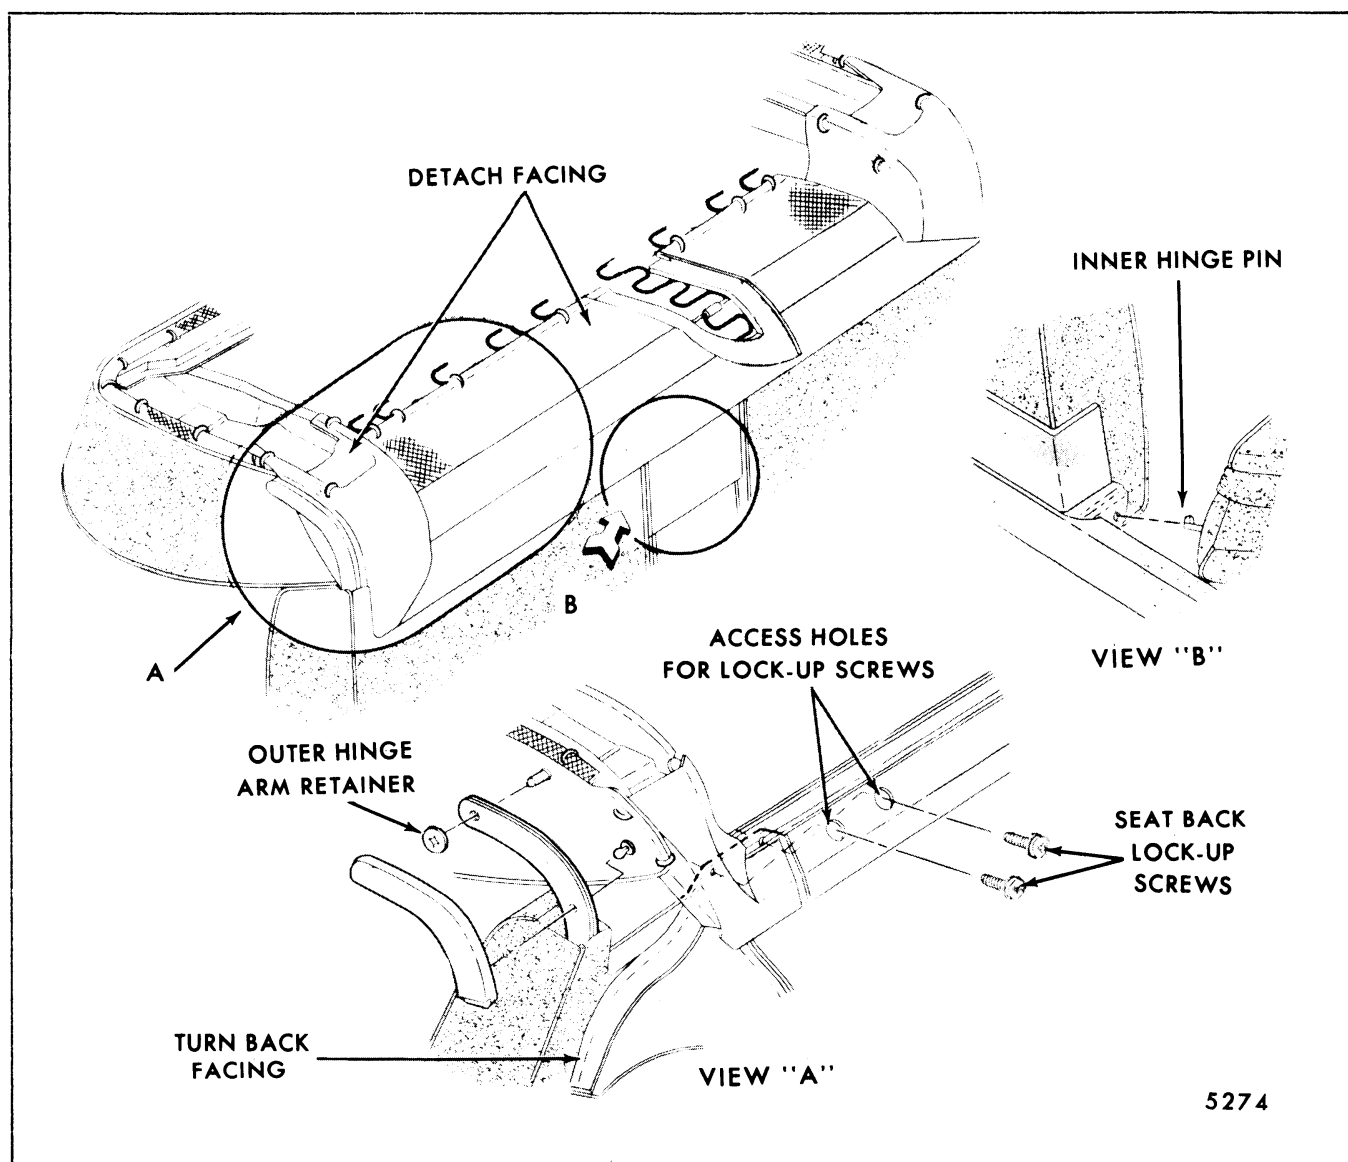
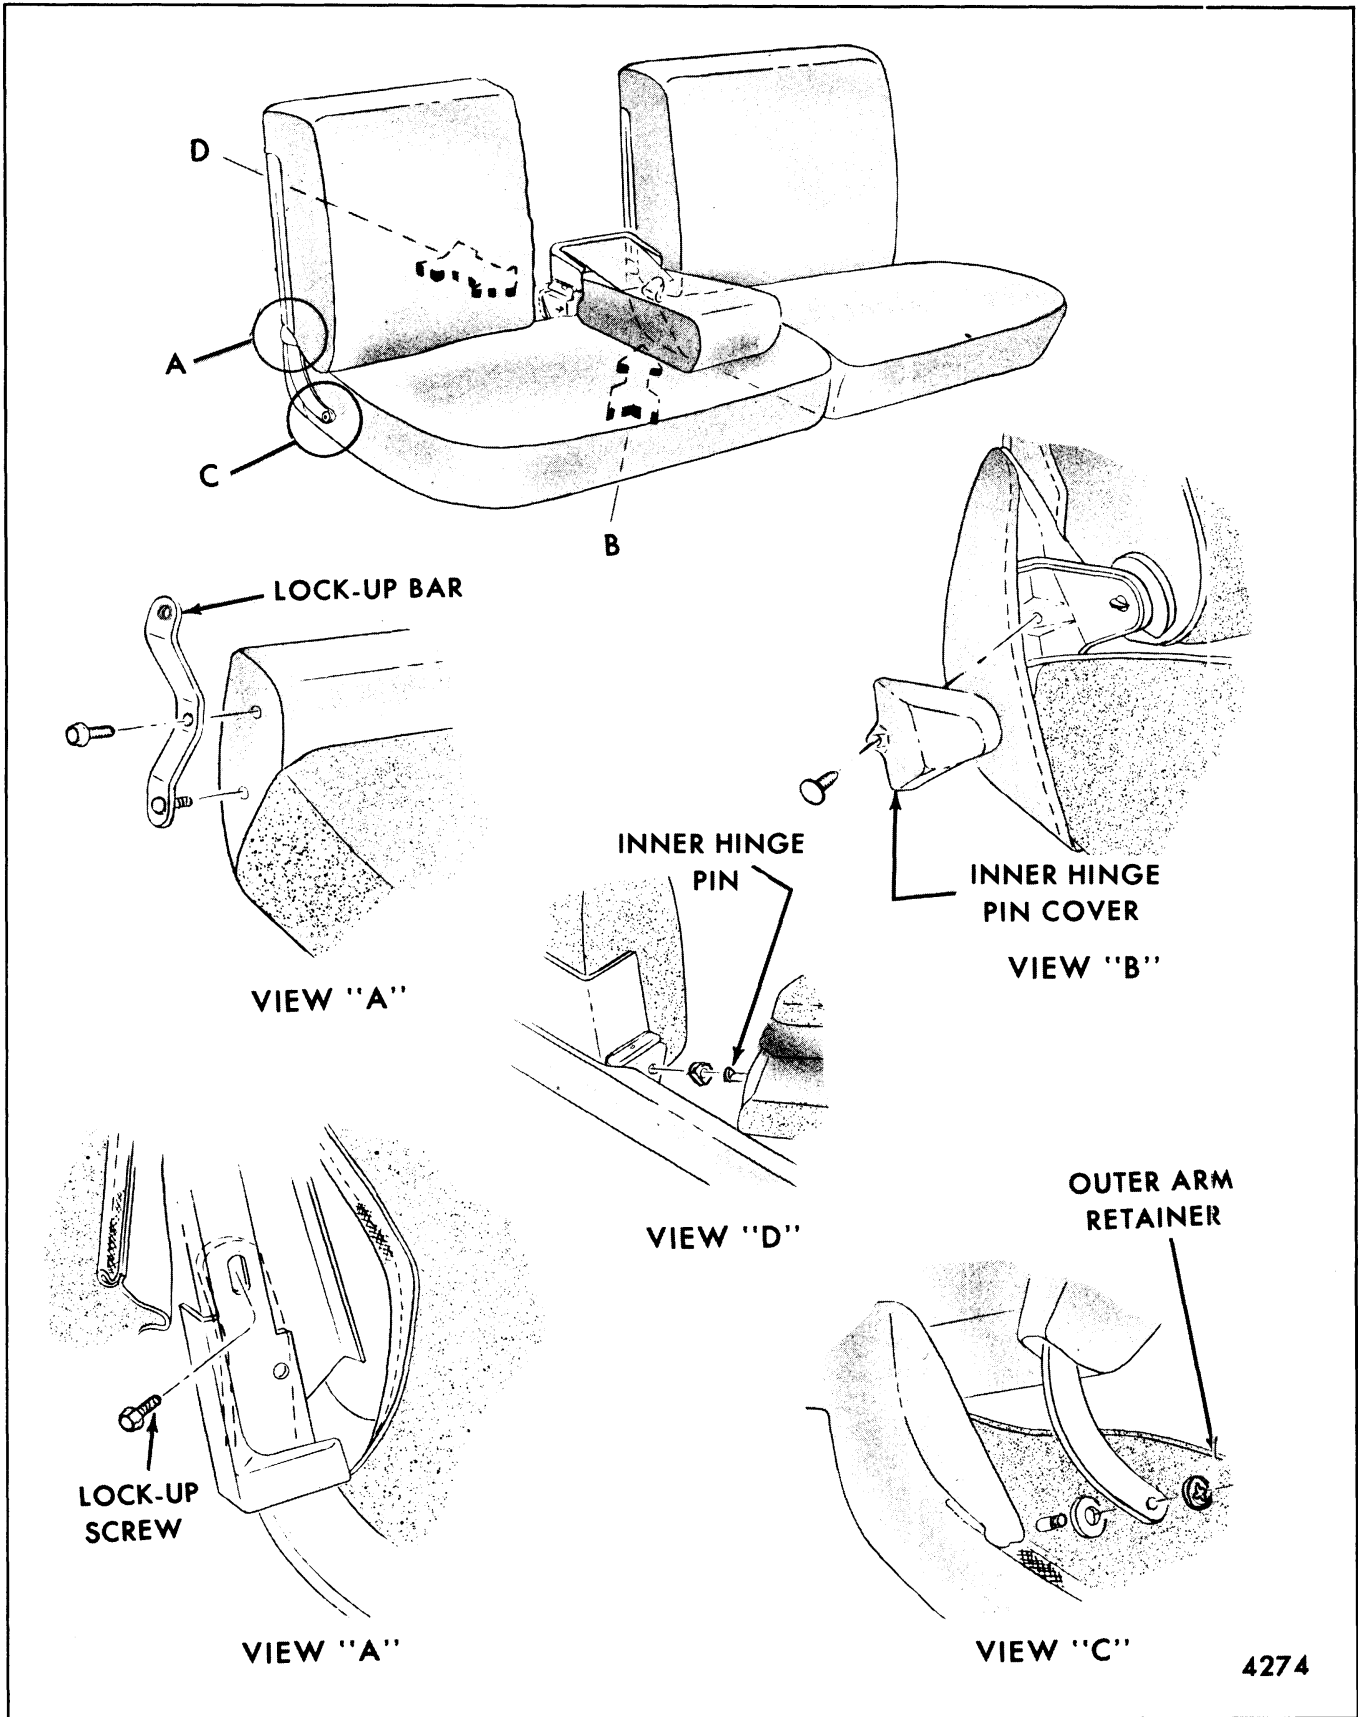

Fig. 9-30-Front Seat Back Attachment (Right or Left) - Four-Door Style Notch Back Seat and 60-40 Seats
Fig. 9-31-Front Seat Back Attachment (Right or Left) - Four-Door Style 60-40 Seat
2. Remove hog rings securing lower edge of seat cushion trim bottom facing to seat cushion springs and frame (Fig. 9-30 or 9-31).
3. Remove seat side panel where present or outer hinge arm cover (Fig. 9-30 or 9-31); then, using a flat-bladed tool carefully remove retainer securing seat back outer arm to hinge pin (Fig. 9-30 or 9-31).
4. On notch back seats detach trim sufficiently to expose seat back attaching bolt access holes (Fig. 9-30); then, through access holes remove seat back lock-up screws (Fig. 9-30). On 60-40 seats detach trim at outer hinge arm sufficiently to remove outer hinge arm lock-up screw (Fig. 9-31).
5. Turn seat assembly right side up. Carefully disengage seat back outer arm from hinge pin; then, tilt seat back forward and upward to disengage seat back inner arm from hinge pin and remove seat back from body (Fig. 9-30 or 9-31).